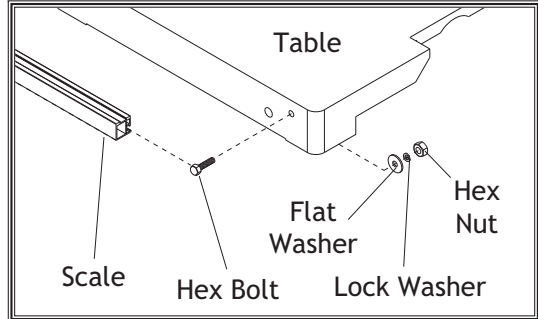

Figure 17. Mounting rip fence scale.
10. Mount the rip fence scale to the large extension table and cast iron table (**Figure 17**) using three M6-1 hex nuts, 6mm lock washers, 6mm flat washers, two M6-1 x 16 hex bolts, and one M6-1 x 25 hex bolt. (The longer hex bolt is used in the cast iron table.) Adjust the scale even with the table tops, then tighten the fasteners.